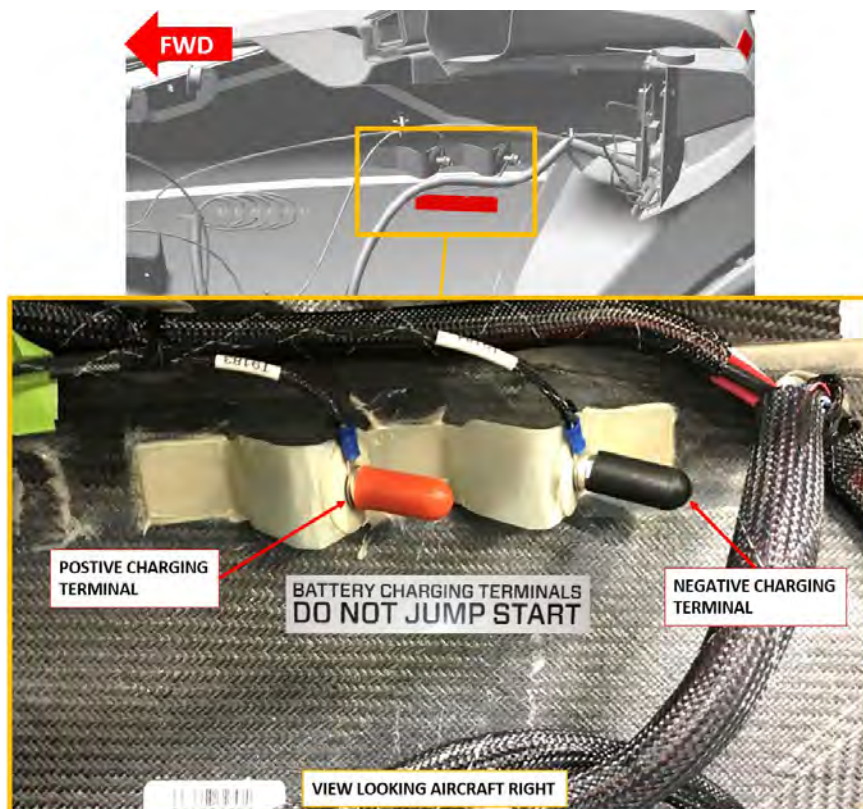

FIGURE 7-6
2. Remove red and black terminal caps from positive and negative charging terminals, respectively. (See Figure 7-6.)
13. Replace the red and black terminal caps. (See Figure 7-6.)